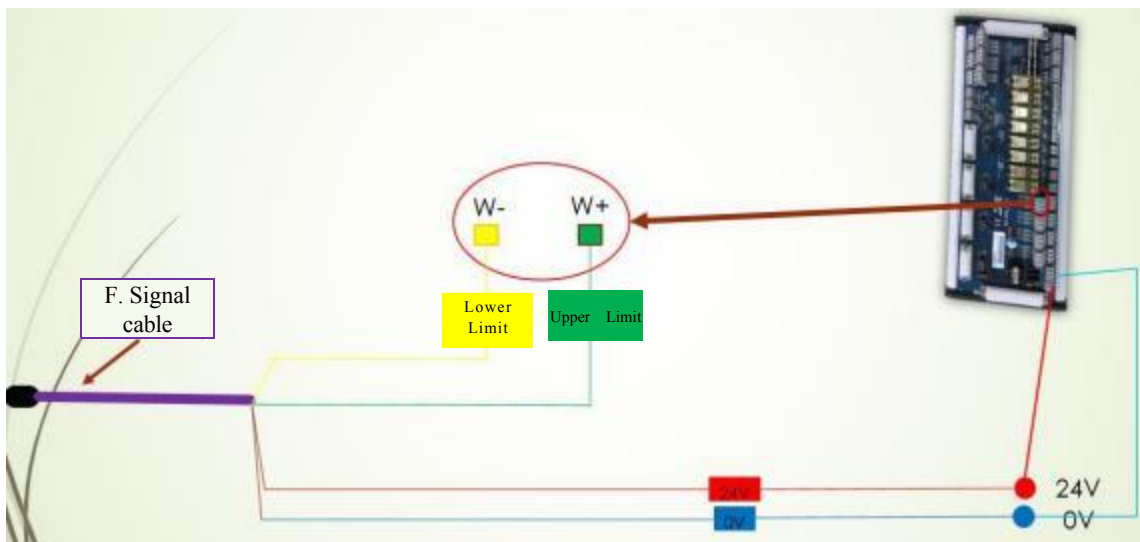

Figure 1.9
- ③ Signal cable wiring, as shown in Figure 1.9.